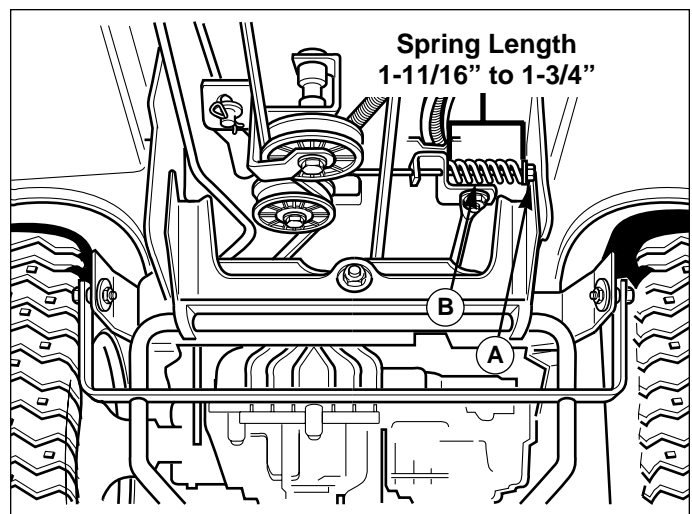

Figure 28. Brake Spring Adjustment - Hydro Models
2. See Figure 28. With the tractor parked on a level surface adjust the brake rod nut (A) until spring (B) is compressed to a length of 1-11/16" to 1-3/4" (4.30 cm to 4.45 cm).